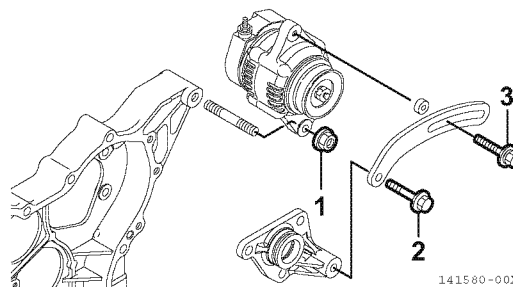

Figure 12-20
- Insert the stud bolt of the gear case to the alternator, and temporarily tighten the alternator mounting nut (1, Figure 12-20).
- With the belt adjuster mounting bolt (2, Figure 12-20) temporarily tightened, temporarily tighten the V-belt adjuster bolt (3, Figure 12-20) to the alternator.